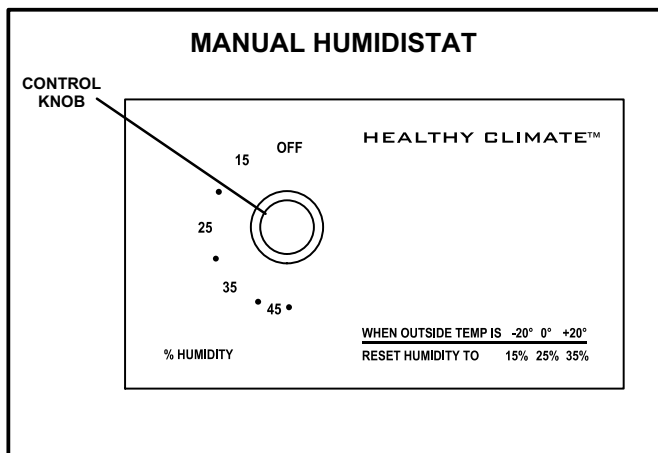

FIGURE 1
- - Models equipped with a manual humidistat (figure 1) -- Turn the humidistat control knob to the OFF position.